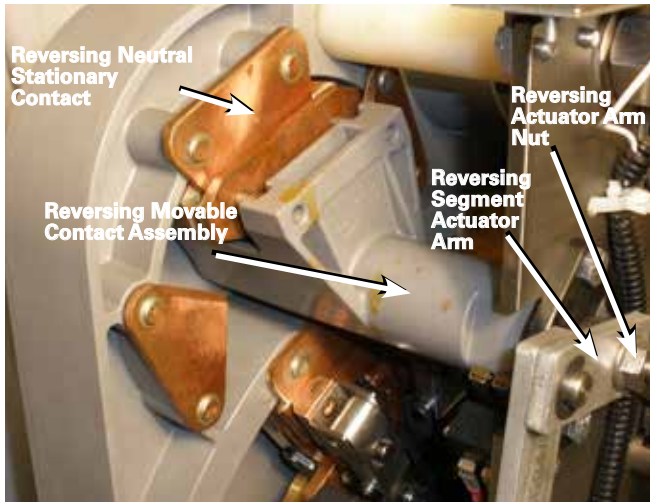

Figure 29. Actuator arm and hardware.
1. Hold the reversing movable contact assembly to prevent the assembly from moving. Using a 9/16" wrench loosen and remove the reversing actuator arm nut. See Figure 29.